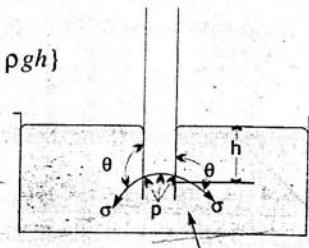

Fig. 1.14 .
**Expression for Capillary Fall.** If the glass tube is dipped in mercury, the level of mercury in the tube will be lower than the general level of the outside liquid as shown in Fig. 1.14.